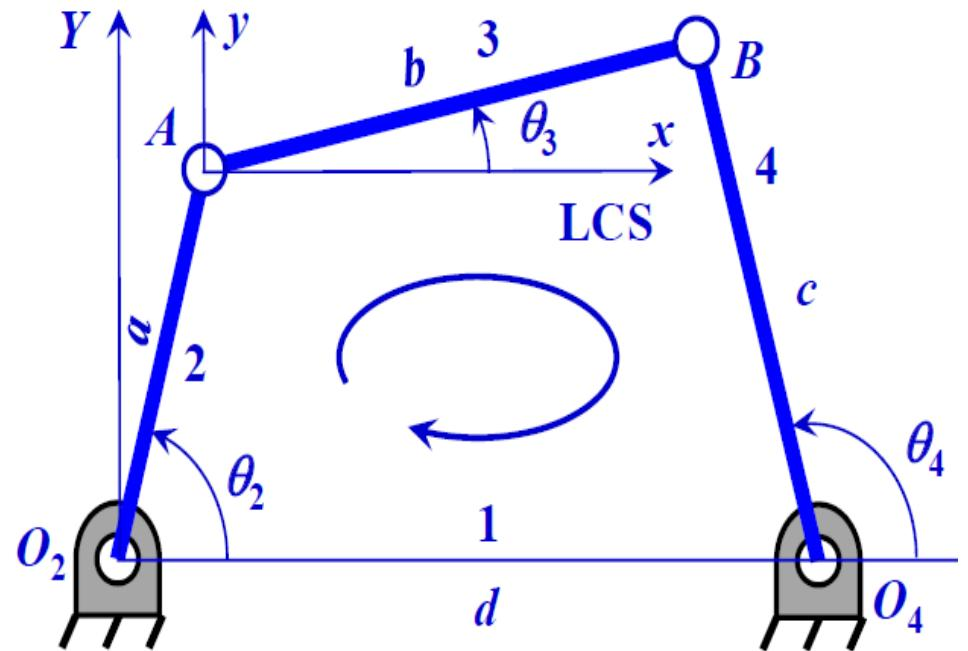

Figure 5
- Coordinates of nodes \rightarrow Figure 5